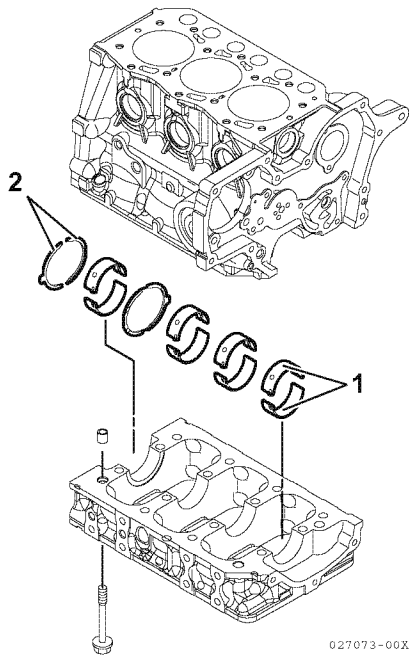

Figure 6-87
2. Install new bearing inserts (**Figure 6-87, (1)**) and thrust bearing (**Figure 6-87, (2)**) in the cylinder block and main bearing caps. Be sure the oil holes in the upper bearing shells align with the oil ports in the cylinder block. Apply a liberal coat of clean engine oil to the bearings and crankshaft journals.